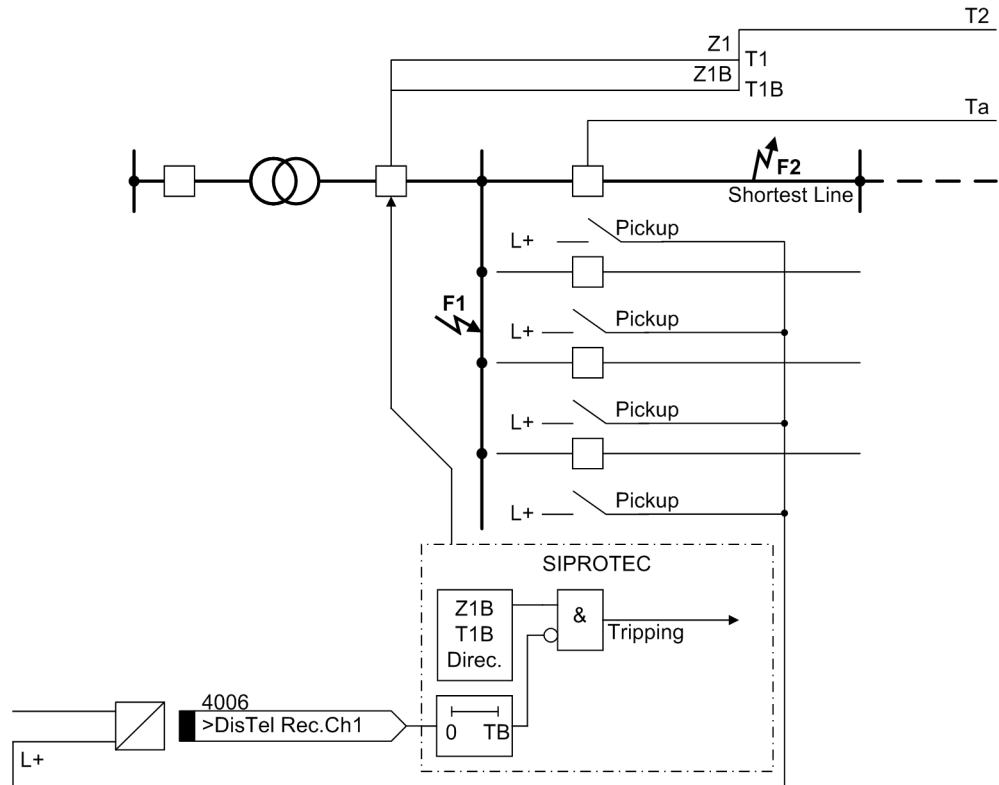

Figure 2-101 Reverse interlocking - functional principle and grading example
The overreach zone Z1B, whose delay time T1B must be set longer than the pickup time Ta of the protection devices of the outgoing lines, is blocked after the pickup of an inferior protection. The pickup signal is sent (according to Figure 2-101) via the receive input (4006 „>DisTe1 Rec.Ch1“) of the distance protection. If no signal is received this zone guarantees fast tripping of the busbar for
- The reverse interlocking of the distance protection is performed by specific release or blocking of the overreach zone Z1B. It can be realized by the blocking mode (parallel connection of the NO contacts as illustrated in Figure 2-101) or the release mode (series connection of the NC contacts).